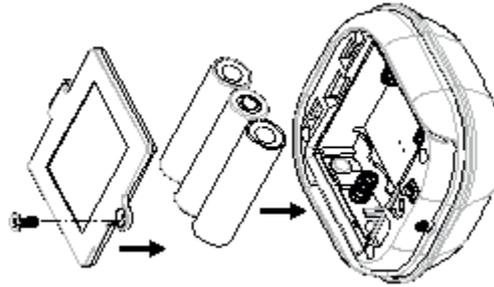

FIGURE 3
- 3) Insert 3 AA-size 1.5V alkaline batteries into the battery compartment, ensuring correct polarity is followed (FIGURE 3).